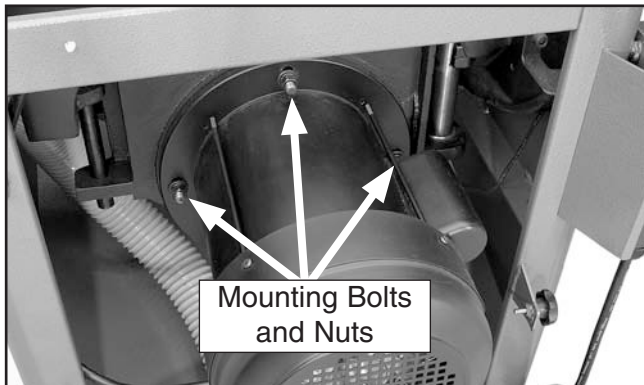
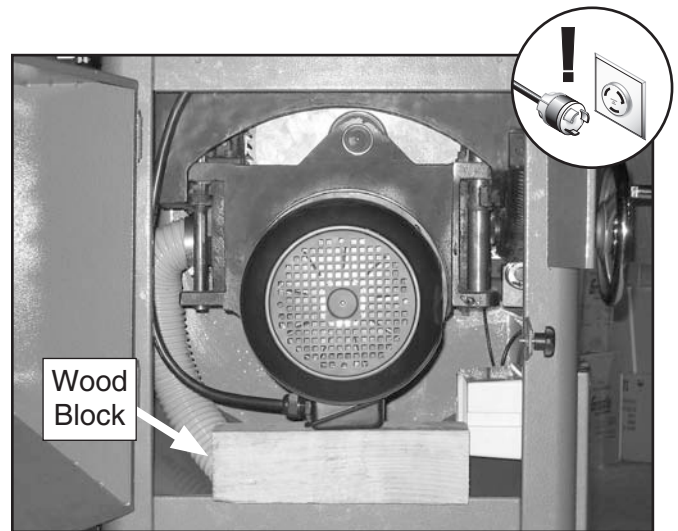

Figure 65. Motor mounting bolts.
Figure 66. Motor resting on wood block.
3. Loosen the three motor mounting hex nuts, shown in **Figure 65**, two turns, and place a 4x4 block between the cabinet and bottom of the motor, as shown in **Figure 66**.
4. Lower the arbor assembly until the motor rests on the wood block, as shown in **Figure 66**, to reduce tension on the flat belt. Be careful not to damage the motor, and do not force the arbor down further when it becomes difficult to move the handwheel.